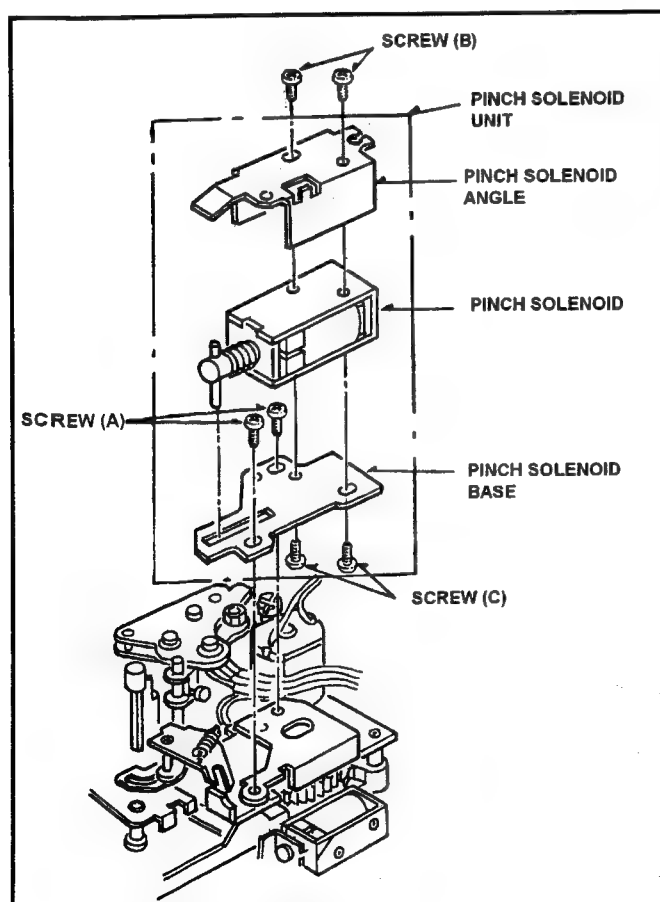

Fig. 8-9-1. Removal of Pinch Solenoid
4. Unscrew the **2 screws (A)** and remove the Pinch Solenoid Unit as shown in Figure 8-9-1.
5. Unscrew the **2 screws (B)** and remove the Pinch Solenoid Angle as shown in Figure 8-9-1.
6. Unscrew the **2 screws (C)** and remove the Pinch Solenoid from the Pinch Solenoid Base.